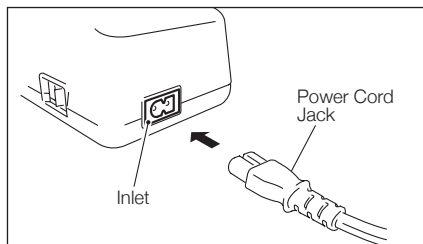

Fig. 4
- 1) Insert the power cord jack into the inlet at the back of the battery charger. (Fig. 4)